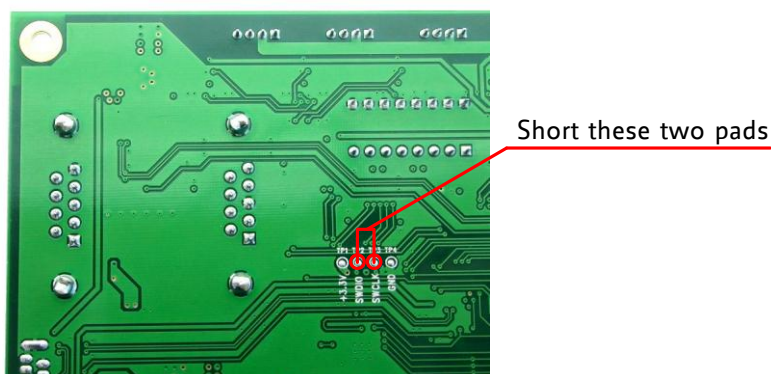

Figure 6.1 Reset to factory default settings
2. Short two pads as marked in Figure 6.1.